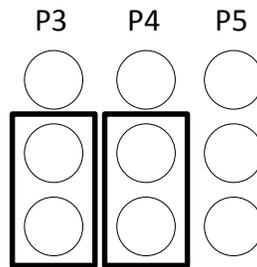

Figure B.1. Jumper Settings for USB Booting
1. Power OFF the USB3-GbE VIP IO board and set the jumpers for USB Boot as shown in Figure B.1.